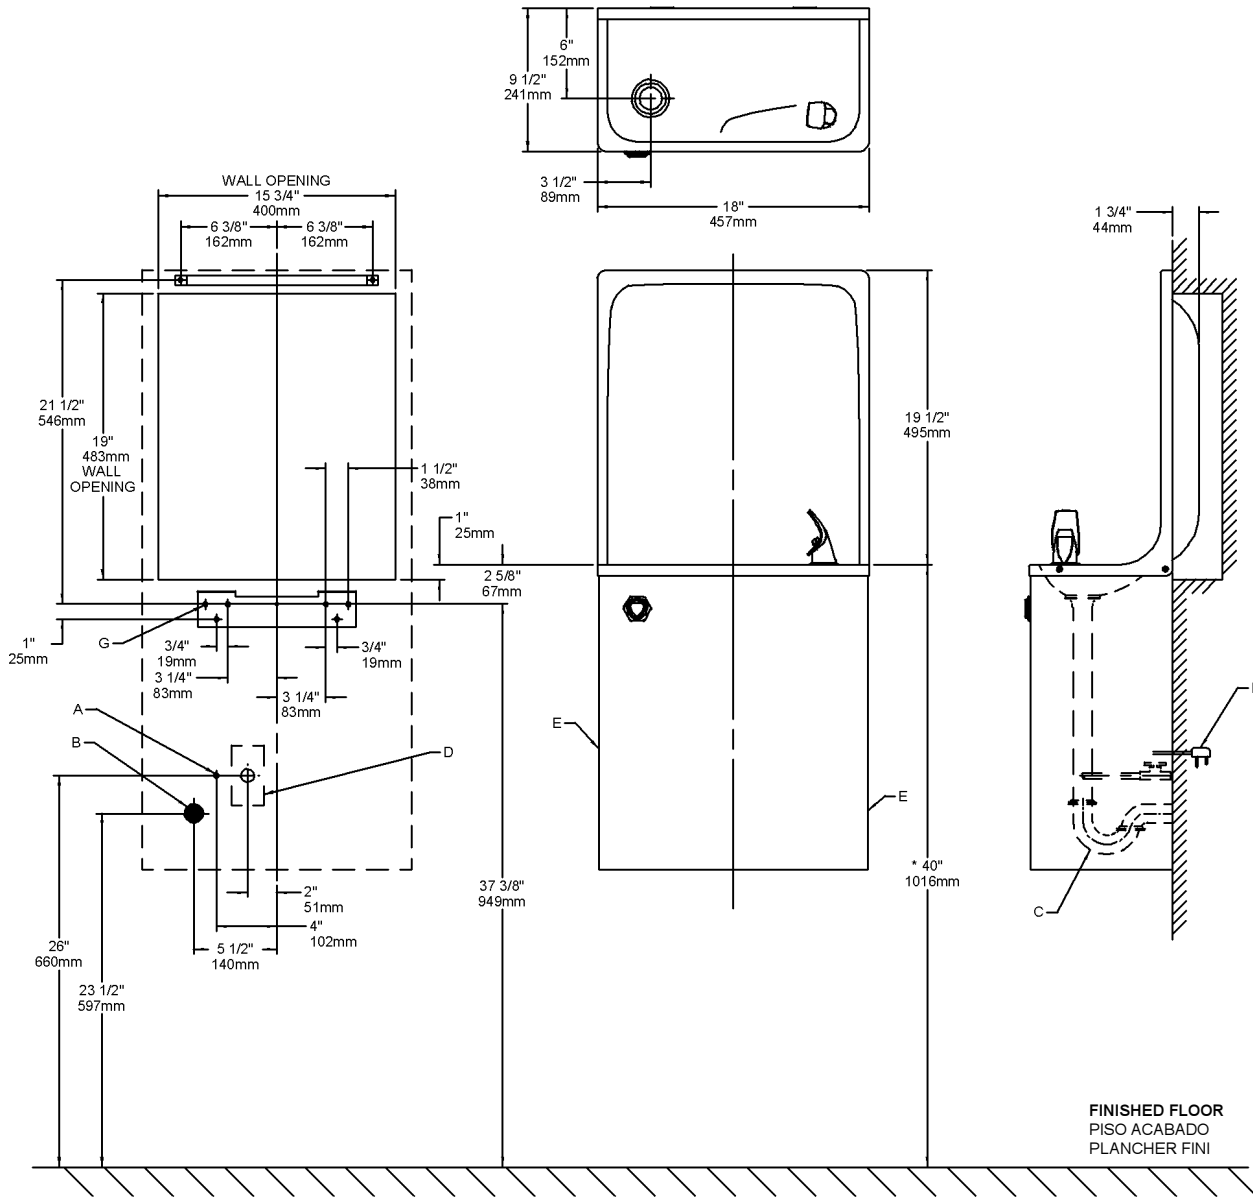

FIG. 2
- 2) Mount the hanger brackets and trap as shown in Figure 2.